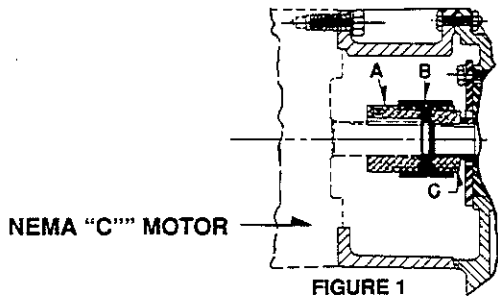

FIGURE 1
Shown in figure 1 below is the C-FACE ASSEMBLY for mounting Nema C-face motor frames 48Y, 56C, and 140TC.
2. Slip reducer coupling hub C on reducer input shaft until it shoulders on the reducer seal sleeve as shown in Figure 1.
4. Guide motor shaft coupling hub A into the coupling sleeve as shown in Figure 1.